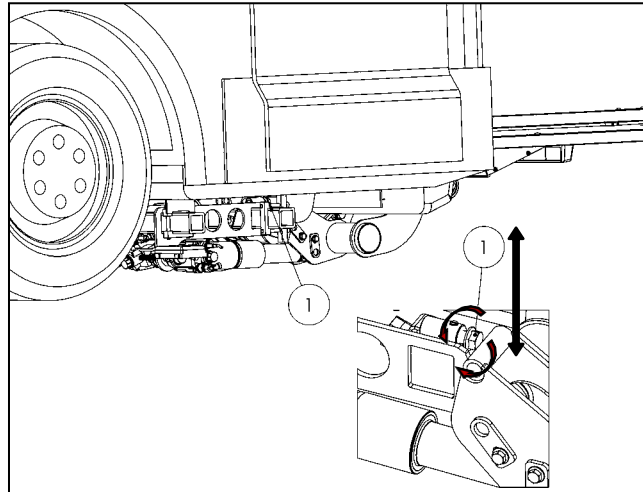

Figure 74
- Use the adjustment screw (1) to set the lift height (see Fig. 74).